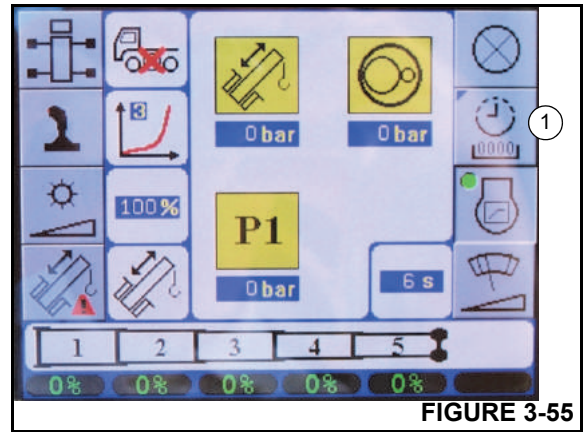

FIGURE 3-55
Press the Settings submenu button in the Main menu and then press the Operating hours button (1) (Figure 3-55) to open the Operating Hours submenu.